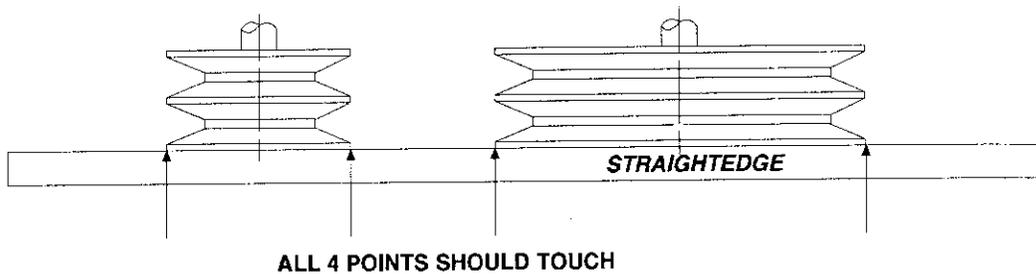

Figure 17: Sheave Alignment
2. Slip the loosely assembled unit on the shaft, bushing flange first, and align both sheaves to their desired position on the shaft. V-belts can tolerate misalignment up to 1/32" per foot of center distance. Use a straight edge across four points on both sheaves to help obtain proper alignment, *Figure 17, page 22*.
1. Line up the clearance holes (A) in the bushing flange with the threaded holes (B) in the sheave hub, *Figure 17, page 22*. Insert the capscrews with
2. Slip the loosely assembled unit on the shaft, sheave hub first, and align both sheaves to their desired position on the shaft. V-belts can tolerate misalignment up to 1/32" per foot of center distance. Use a straight edge across four points on both sheaves to help obtain proper alignment, *Figure 17, page 22*.